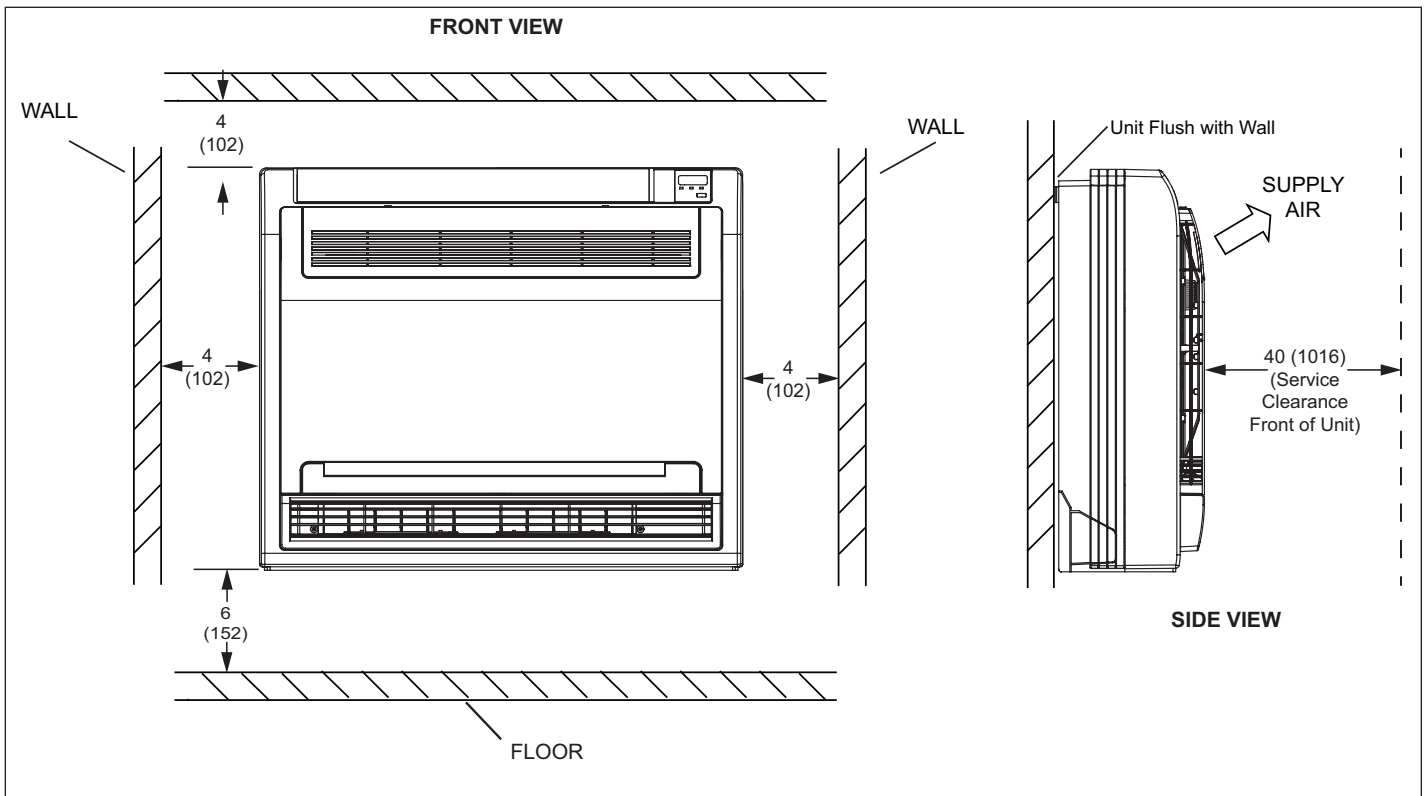

Figure 4. Indoor Unit Clearances - Inches (mm)
- Locate a suitable position within the space where maintenance access and supply air will not be restricted or affected by obstacles. See "Figure 4. Indoor Unit Clearances - Inches (mm)" on page 6 for minimum clearances.